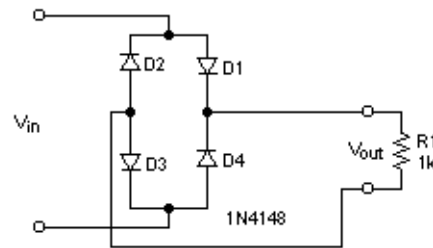

Figure 2-3: Full-wave rectifier
1. Use PSpice to obtain a plot of the transfer function of the circuit shown in Fig. 2-3. Use the plot to estimate the output if the input is a sine wave with 10V amplitude and 60Hz of frequency.
4. Build the full-wave rectifier shown in Fig. 2-3 with the component values used in the preparation section; use the LabView program *tranchar.vi* to obtain the transfer function of the circuit. Then apply a sine wave identical to that used in the preparation section, and record the output waveform.
In the full-wave rectifier circuit shown in Fig. 2-3, determine what will happen to the circuit if 1) D1 is disconnected, 2) D1's polarity is reversed, with everything else being the same. Sketch the waveforms across the 1k load resistor first and then do a PSpice simulation to verify your results. Will the problems cause a hazardous situation? If so, which one or both?